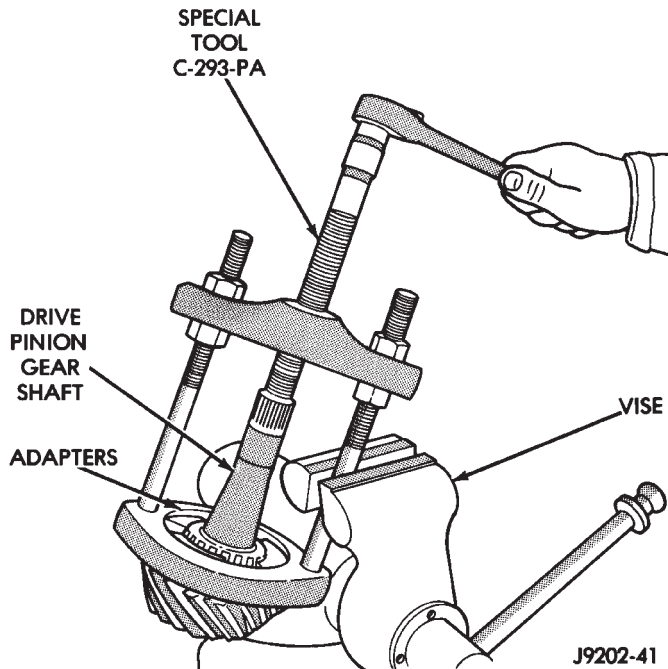

Fig. 40 Inner Bearing Removal
(11) Remove the rear pinion bearing from the pinion with Puller/Press C-293-PA and Adapters C-293-39 (Fig. 40).